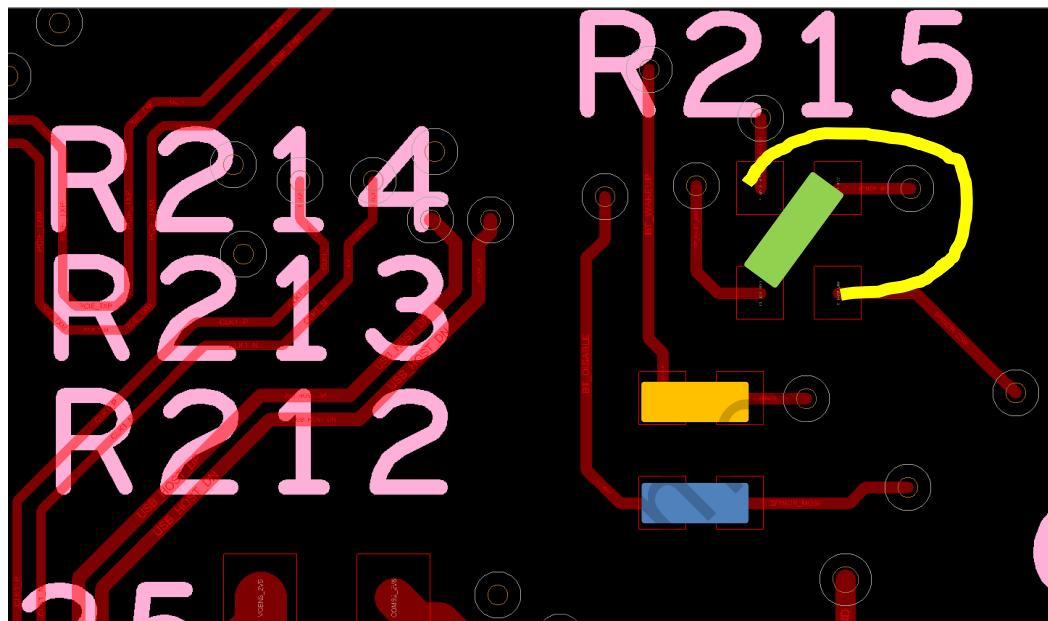

Figure 37: WL\_REG\_ON/WL\_HOST\_WAKE/BT\_UART\_TX/BT\_UART\_RX rework
- 3) Referring to Figure 37, populate resistors R212 (Pin#1/KEY\_ROW0/WL\_REG\_ON: blue) and R213 (Pin#2/KEY\_COL0/WL\_HOST\_WAKE: orange). Now we have to swap the TX/RX lines so “MPU TX <-> BT RX” and “MPU RX <-> BT RX”. R214/Pad#1 connects to R215/Pad#2; and R214/Pad#2 connects to R215/Pad#1. One connection can be crossed by placing resistor on 60 degree angle (approx.) and the other connection made with blue-wire (yellow) as shown.